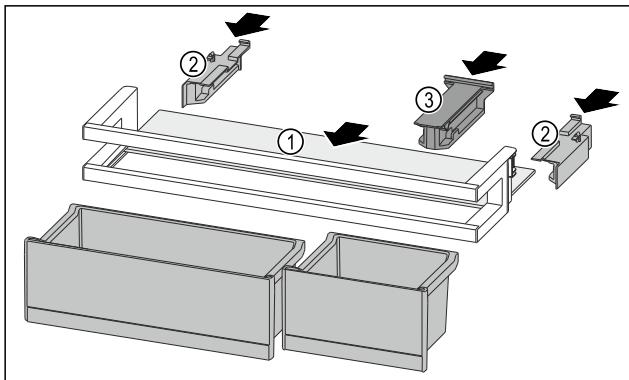

Fig. 91
- ▶ Push the shelf Fig. 91 (1) into the side cutouts.
- ▶ Insert the side parts Fig. 91 (2).
- ▶ Insert the retaining part Fig. 91 (3).